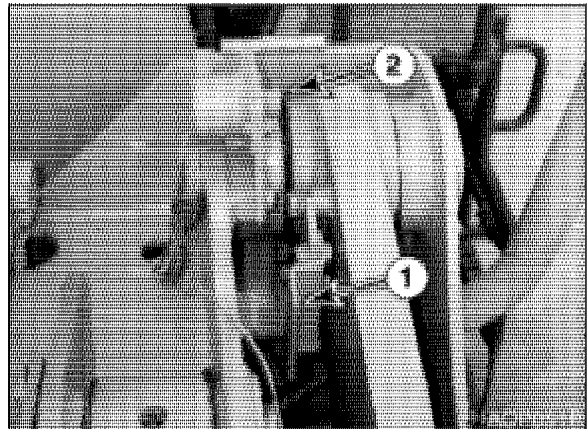

Figure 9
Placing bucket lever in "HR" position will lock control lever in raise boom position. Boom will raise until trip plate (1, Figure 9) makes contact with bucket height limit switch (2). When limit switch is tripped, boom will stop raising and bucket lever will automatically be returned to "NEUTRAL" position. Trip plate can be adjusted to control maximum height that boom can be raised.